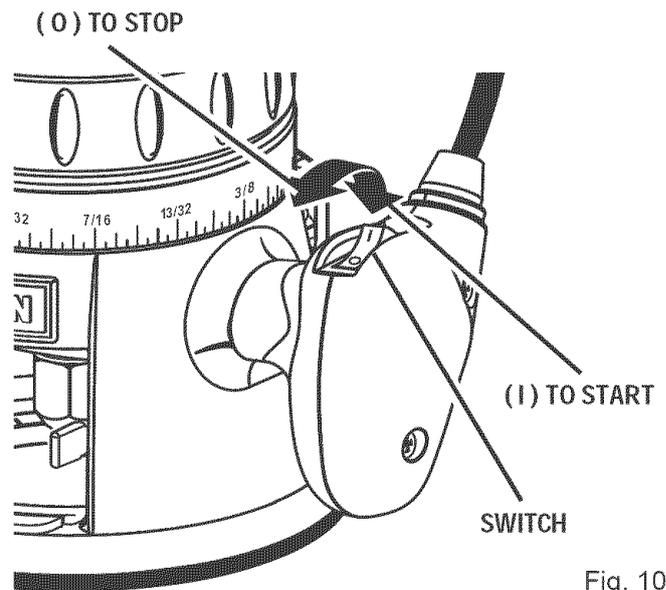

Fig. 10
- To start router: Press the switch to the I position. See Figure 10.
- To stop router: Press the switch to the O position. See Figure 10.